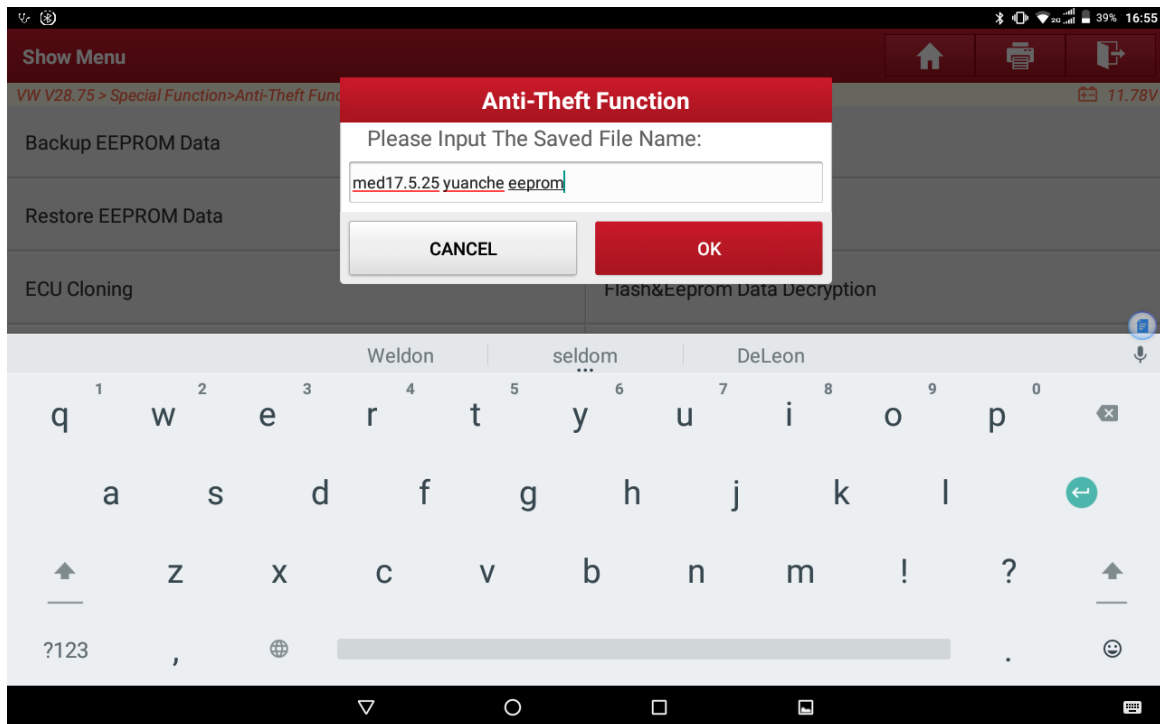

Figure 6
5. Click Return, and then perform the functions of **【Backup EEPROM Data】** and **【Backup FLASH Data】** for the original engine, and save the two pieces of data (**Note**: The FLASH data of engine is large, you need to wait 3-4 minutes to read, it is recommended to use USB for connection), as shown in Figure 6 and 7;